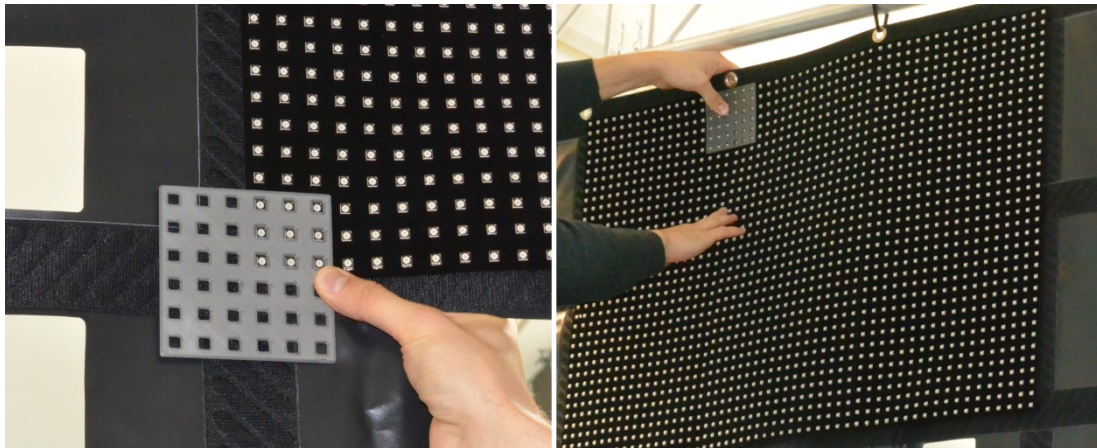

Figure 7: Proper Alignment of ledTec.flex with LED alignment tool
- Proper alignment of the foils on the sub-banner can be achieved by using the LED alignment tool as shown in Figure 7. Once the correct positioning is confirmed, apply gentle pressure along the edges of the foil to ensure reliable mechanical connection between the hook and loop.